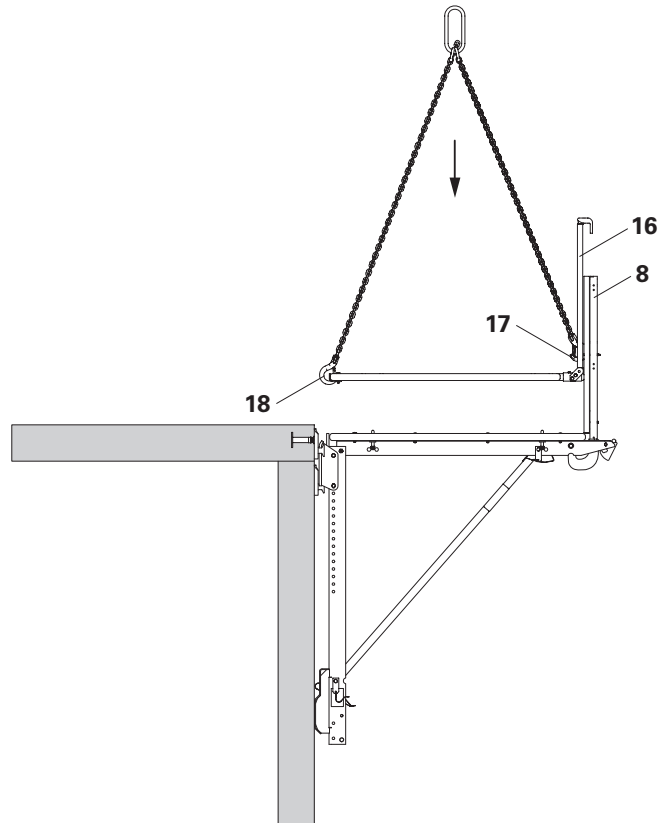

Fig. A3.01
2. Fold out Handrail Frame (16) as far as possible to the stop position. Attach the three chains of the lifting gear to load-bearing points (17) and (18). (Fig. A3.01)